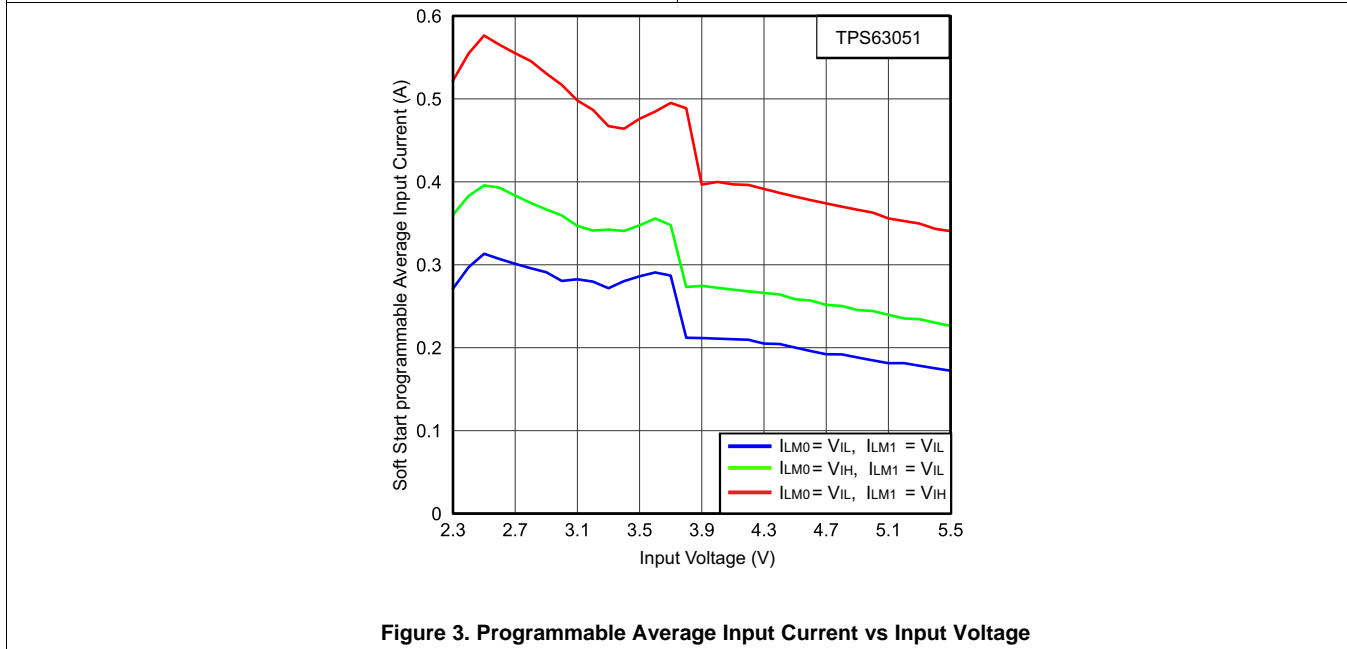

Figure 3. Programmable Average Input Current vs Input Voltage
(3) For variation of this parameter with Input voltage see Figure 3.
(1) For variation of this parameter with Input voltage see Figure 3.
To minimize inrush current and output voltage overshoot during start up, the device has a soft start. At turn on, the input current raises monotonically until the output voltage reaches regulation. The TPS6305x devices charge the soft start capacitor, at the SS pin, with a constant current of typically 1 μ A. The input current follows the current used to charge the capacitor at the SS pin. The soft start operation is completed once the voltage at the SS pin has reached typically 1.3 V. Figure 3 shows the value of the soft start capacitor in respect to the soft-start time.
The soft-start time in Figure 3 is referred to typical application with 10- μ F effective output capacitance.